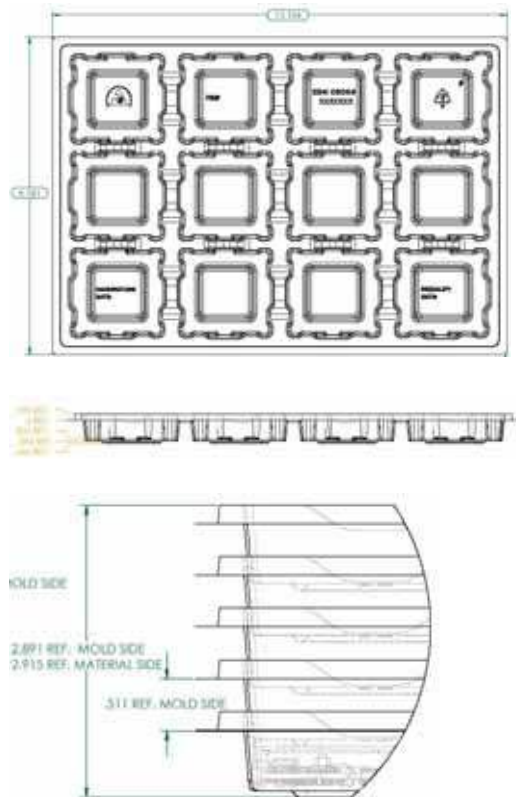

Figure 28. Surface Mount Packaging Tray
The surface mount version, JHW050XX-S power modules are supplied as standard in the plastic tray shown in Figure 28. The tray has external dimensions of 234mm (W) x 334mm (L) x 21.5mm (H). The tray is designed to allow the use of either vacuum pick up or mechanical grippers to automatically place the power module.